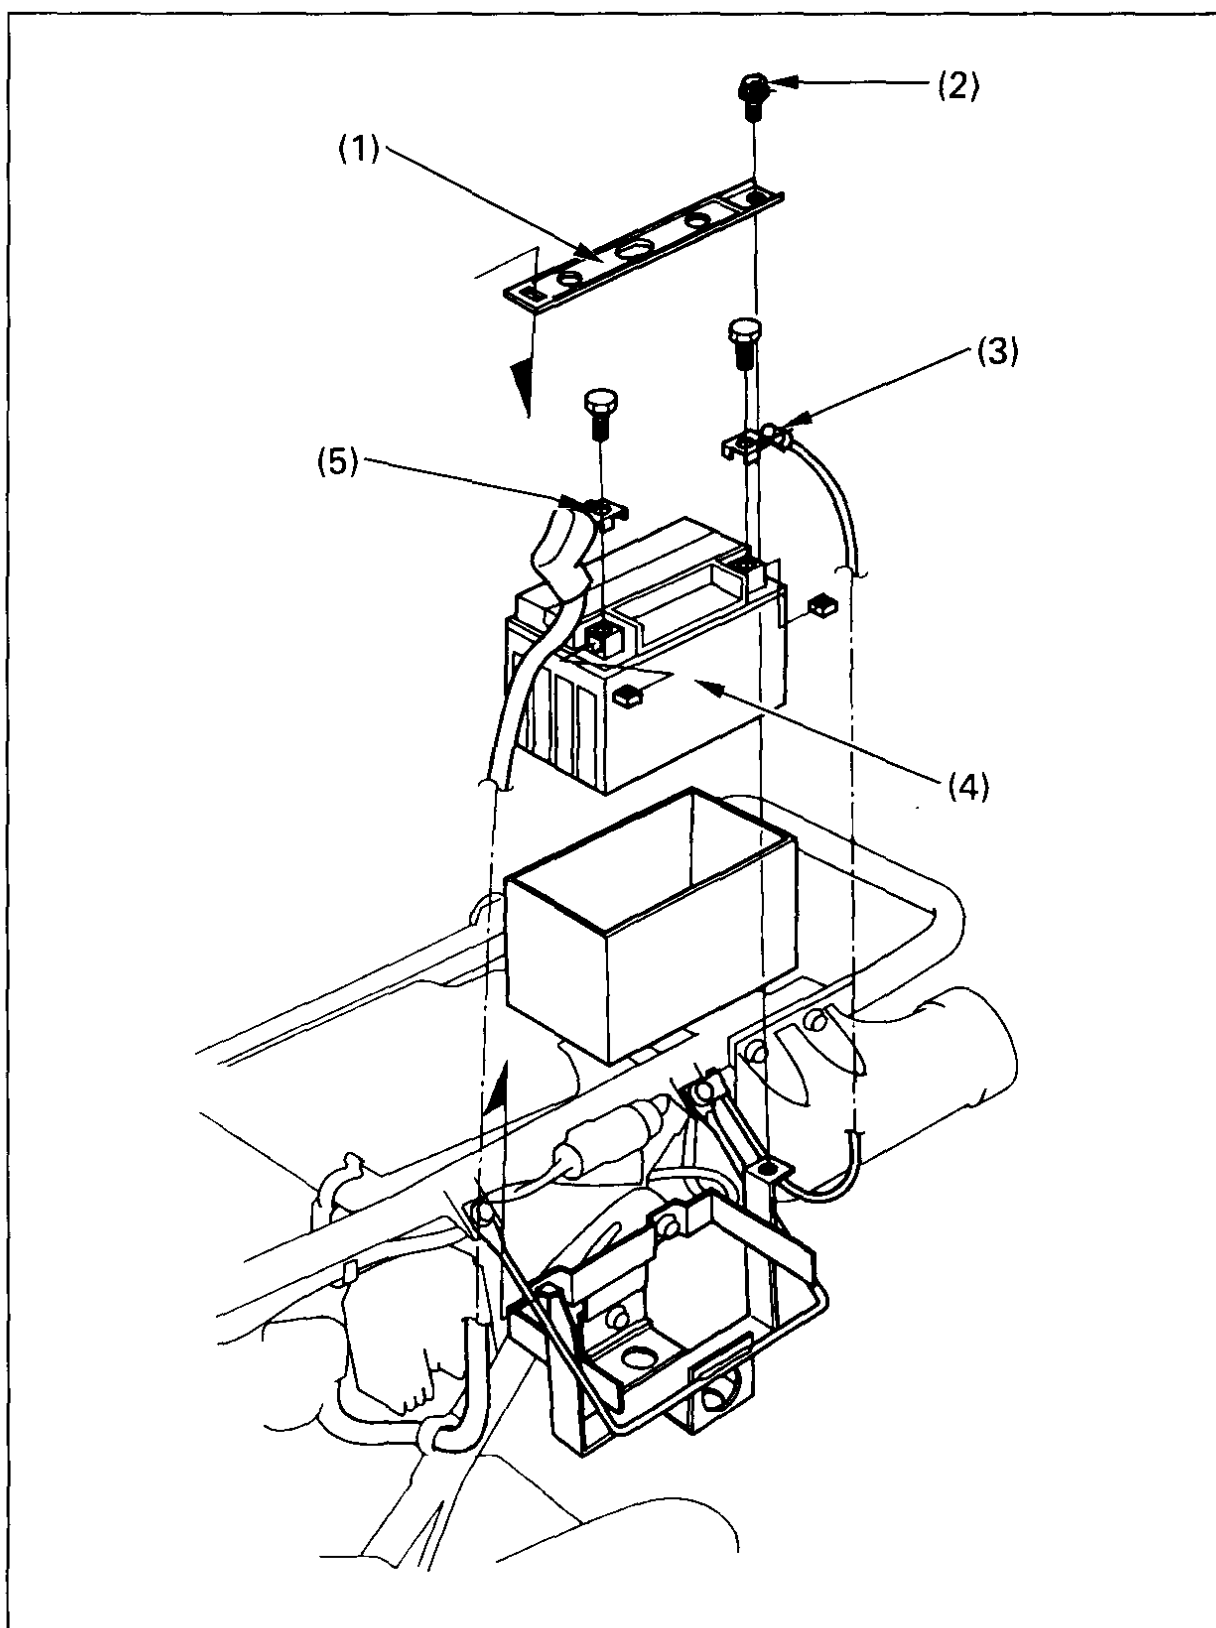

Fig. 4-20
3. Remove the battery holder (1), (Fig. 4-20) by removing the mount bolts (2).
4. Disconnect the negative (—) terminal lead (3) from the battery (4) first, then disconnect the positive (+) terminal lead (5).